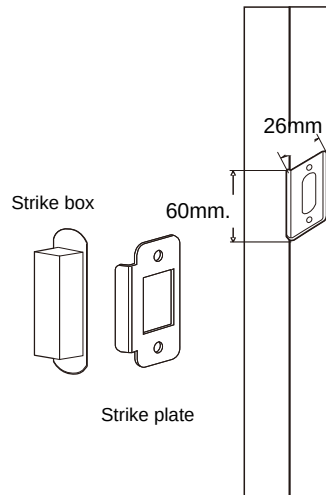

Fig. 2
1. Drill the strike box recess: depth 15mm, length 60mm (Fig. 2 & 3).